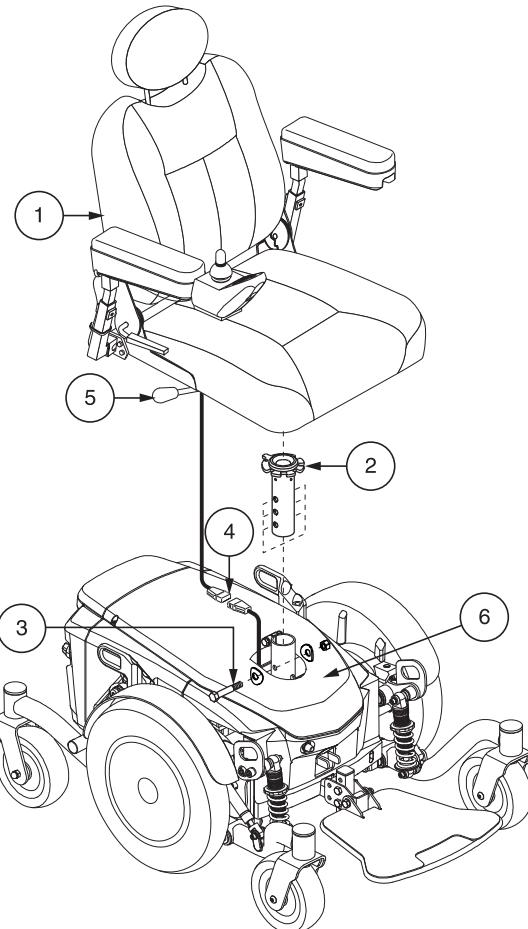

Figure 8. Seat Height Adjustment
3. Disconnect the controller connector from the power base. See **figure 8**.
4. Disengage the seat release lever. See **figure 8**.
7. Loosen the hardware at the rear of the seat post. See **figure 8**.
8. Remove the seat height adjustment bolt, washers, and nut from the seat post. See **figure 8**.
NOTE: The most common configuration of the seat adjustment hardware is shown in figure 8. Your product may be equipped with a different configuration. All configurations operate in a similar manner.